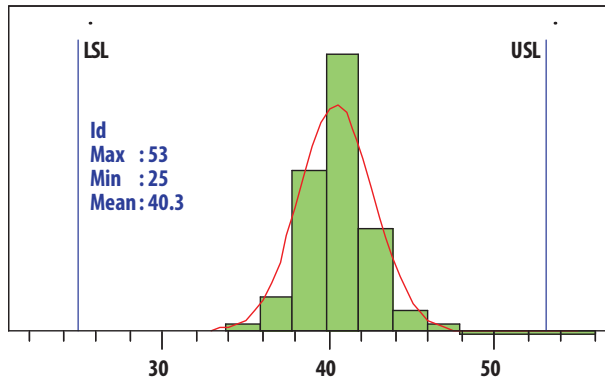

Figure 1. Id @ 900 MHz, Mean = 40.3
1. Measurements at 900 MHz obtained using demo board described in Figure 1.